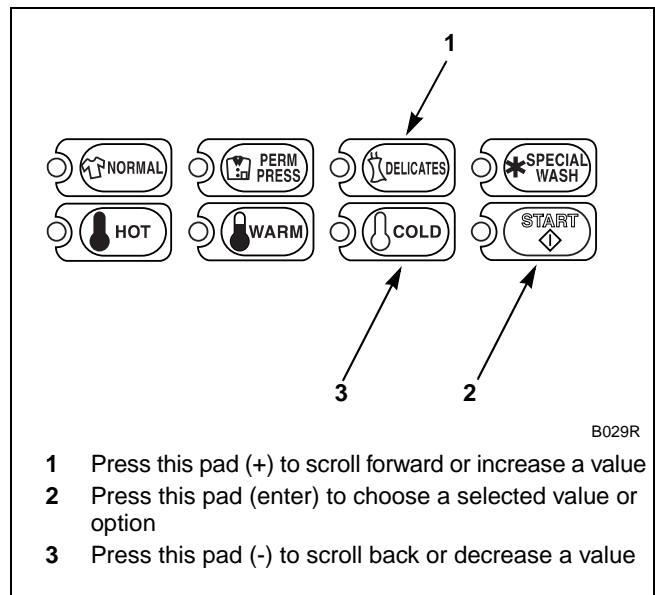

Figure 89
5. Press the DELICATES (+) or the COLD (-) keypad to increase or decrease the current extract value displayed in the VFD to the desired extract value. Refer to *Figure 89*.